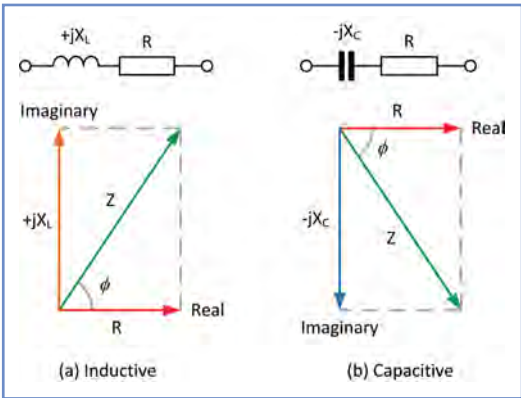

Fig.5.3 Impedance triangles for (a) inductive and (b) capacitive reactance
Impedance is an important parameter in a wide variety of electronic circuits and can be defined as the total opposition offered by a component or circuit to the flow of alternating current (AC) at a stated frequency. Unlike pure resistance in a DC circuit, impedance is a vector quantity that consists of a real part (resistance) and an imaginary part (reactance). The reactance can either be capacitive, -jX_C, or inductive, +jX_L. Note that the j-operator is used to indicate the quadrature phase angle with current leading or lagging voltage by 90° according to the sign placed immediately before the j-operator. Fig.5.3 illustrate this important relationship between resistance (R) reactance (X_C) and inductance (X_L). Note that the phase angle (φ) is defined as the angle between applied current (I) and voltage (V).